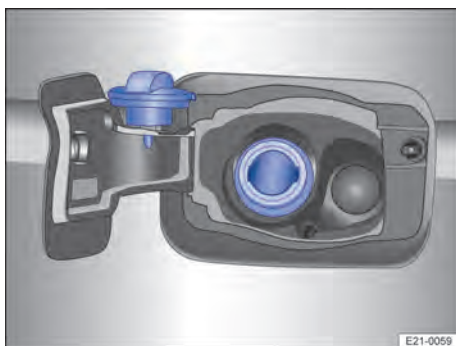

Fig. 164 On the left-hand side of the vehicle: tank flap with open tank cap.
4. Unscrew the tank cap and place it in the opening provided in the tank flap → Fig. 164.